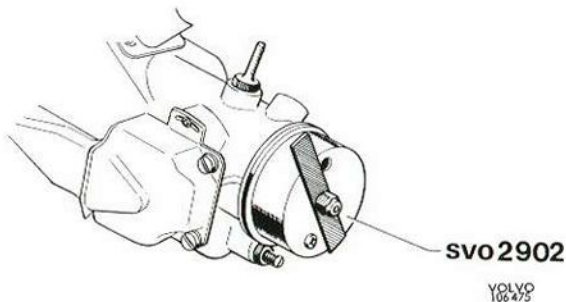

Fig. 2-195. Cover for ignition setting
3. Start the engine. Fit the plastic cover, 999 2902, as shown in Fig. 2-195, and adjust down the speed to 12—13 r/s (700—800 r/m) by moving the bar across the hole in the plastic cover.
4. Adjust the idling speed to 15 r/s (900 r/m) by means of the idle adjuster screw. (If the speed cannot be lowered sufficiently, check the basic setting of the throttle valve, see Fig. 2-195.)